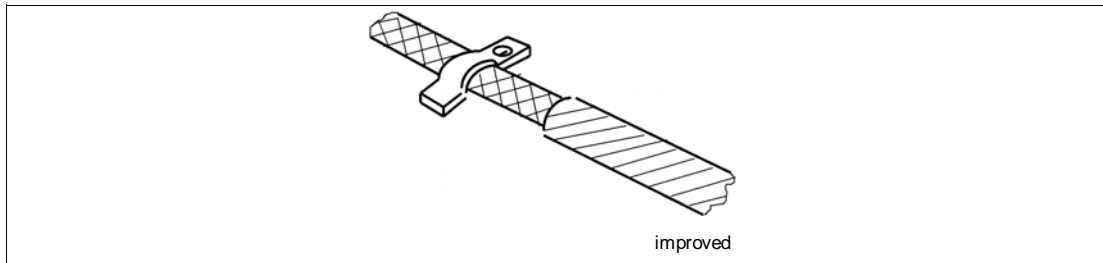

Figure 17 Improved Shielding
- Install a ferrite core around the cable as close to the SPiiPlus CM as possible as illustrated in Figure 17.